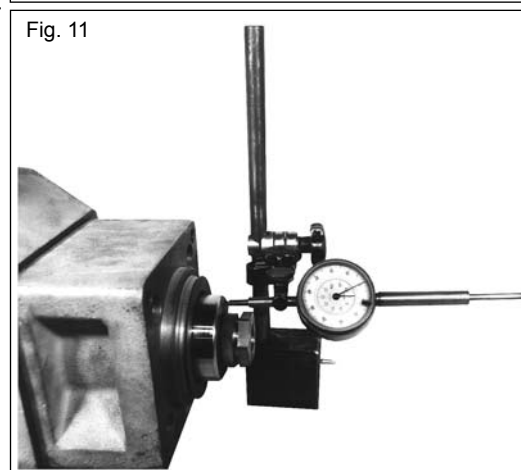

Fig. 11
- Install air filter (39) again. Checking of lubricant level as per section 6.1.1.
Set to 5 mm stroke length by turning the handwheel (21) in the appropriate direction. Checking is done by means of a dial gauge (see figure 11).
The plunger rod (28) now will project the most from the drive unit. Check this using a dial gauge. Measure the movement of the plunger rod (28) by rotating the worm shaft (19) (refer to figure 11).
To check the eccentric staggering turn the worm shaft until the plunger rod or the first drive unit is in its rear dead centre position (0°). Check this location using a dial gauge (figure 11). From table "eccentric shifting" you can take the Δh dimensions by which the plunger rods of the other drive units must project more from the plunger rod guide.